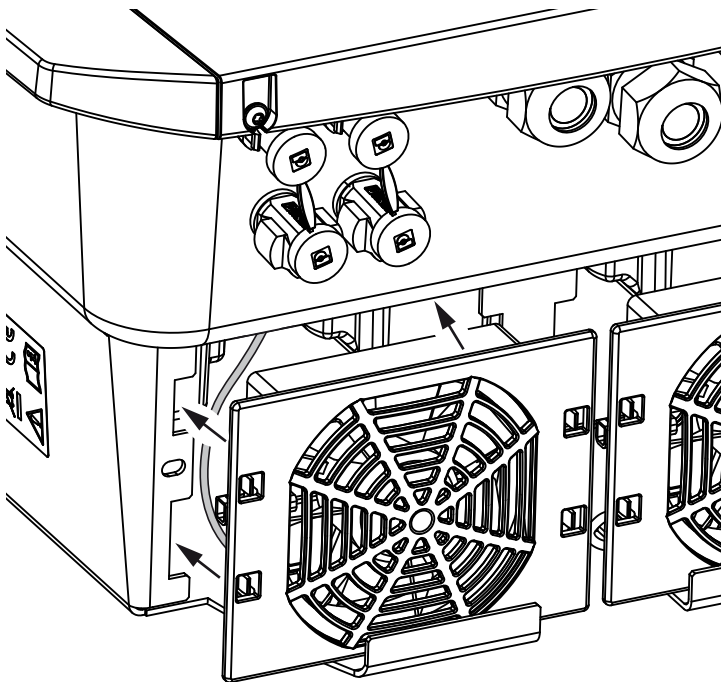

Fig. 67: Fan installation
- The fan must be correctly installed in the fan frame (air flow direction). **➡ Fig. 67**